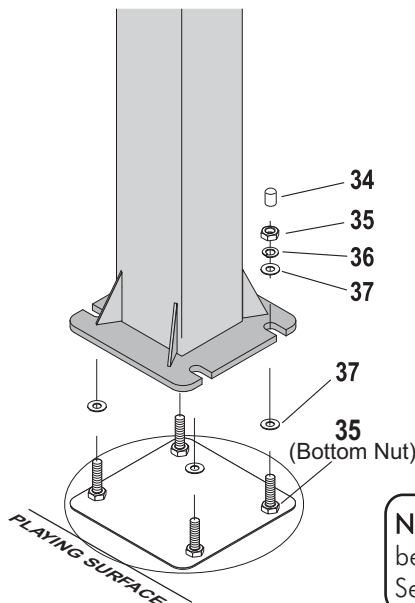

Figure 10
- 12.** Put a flat washer (#37) on each anchor bolt. Lift post onto anchor system and secure with one flatwasher (#37), one lock washer (#36) and one hex nut (#35) for each anchor bolt. Tighten Fasteners finger tight, leave loose enough to level pole. Place a level on pole and adjust bottom nuts #35 until pole is level (left to right and front to back). **Tighten top four hex nuts #35 tight.** Place a thread protector (#34) on each anchor bolt. See **Figure 10**.